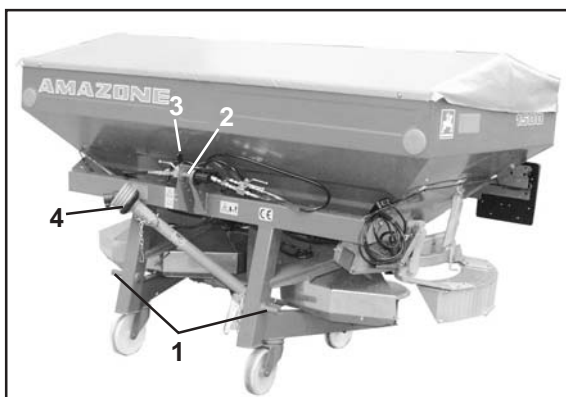

Fig. 5.1
Fig. 5.1 a
- Fix lower link of tractor on lower link pin (cat. II) (Fig. 5.1/1 resp. 5.2/1) and secure with clip pin. On the ZA-M maxiS insert the pin into the upper hole of the lower link console. As standard this lower link console is equipped with a second lower link connection and allows a 120 mm higher mounting to the tractor (e. g. for late top dressing).
- Fix upper link with link pin (cat. II) (Fig. 5.1/2 resp. 5.2/2) and secure. **Hereby arresting lever (Fig. 5.1/3 resp. 5.2/3 and 5.1a/1) must have caught.**
When parking the fertiliser spreader, the pto shaft should be placed into catching hooks provided (Fig. 5.1/4 resp. 5.2/4).